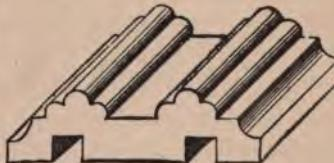
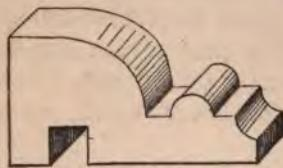

Fig. 85.—Double Wire Moulding.
Fig. 86.—Cornice Moulding.
*Casing and Moulding Wiring.*—This is by far the most common method at the present time for house work. It implies concealed wires, but yet accessible in a case of need. The casings are merely continuous cleats. Fig. 84 is an example of a section of plain channelling with its moulded cover, and Fig. 85 of a more elaborate pattern. Figs. 86 and 87 represent single-wire mouldings for a cornice or angle and an open situation respectively.